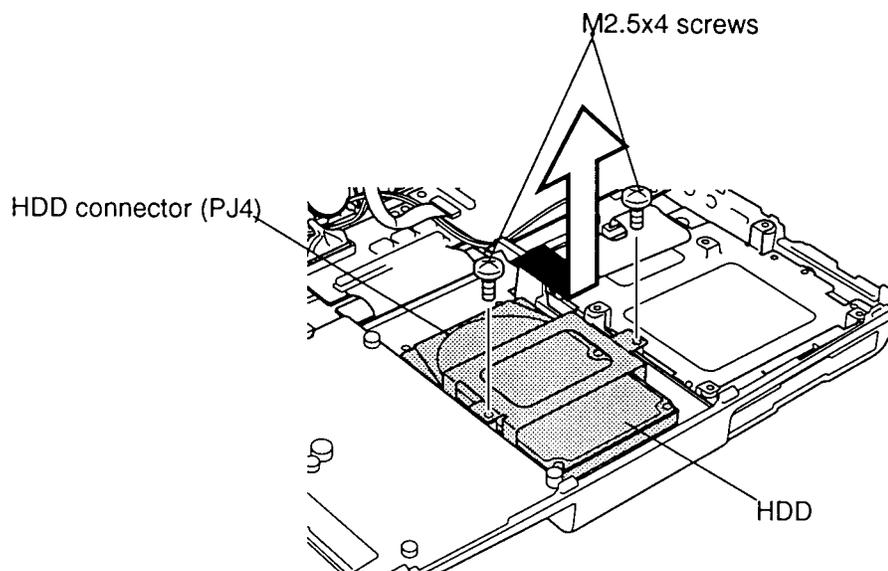

Figure 4-14 Removing the HDD with bracket
To remove the T2400CS/T2400CT's hard disk drive, follow the steps below and refer to figures 4-14 and 4-15.
3. Remove two M2.5x4 screws from the middle of the HDD, and slide the HDD to the front to disconnect the HDD connector (figure 4-14).
To install the T2400CS/T2400CT's hard disk drive, follow the steps below and refer to figures 4-14 and 4-15.
2. Place the HDD on the HDD slot, and slide the HDD to the back. Make sure the HDD connector connects to the system board (PJ4) (figure 4-14).